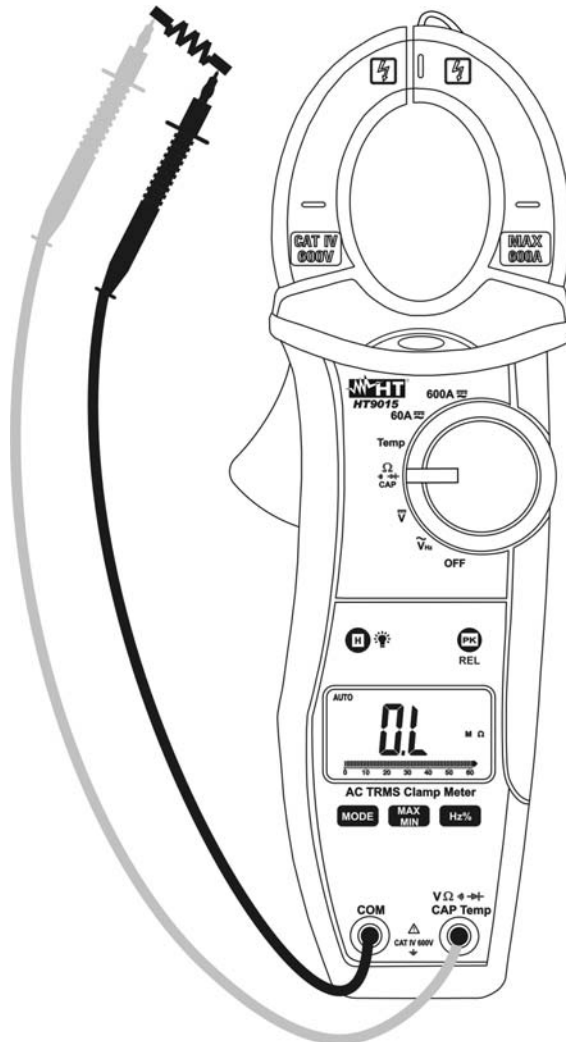

Fig. 5: Taking Resistance measurement
2. Insert the red test lead plug into $V\Omega$ \rightarrow **CAPHz%Temp** jack and the black test lead plug into **COM** jack (Fig. 5)